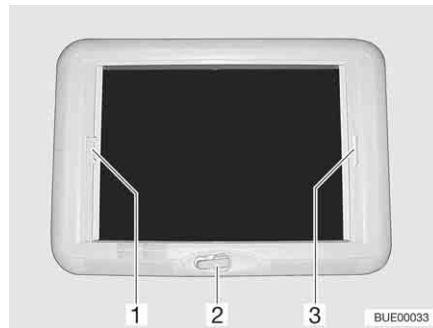

Fig. 90 Wind-up skylight
- Opening:* ■ Rotate the hand crank (Fig. 90,2) until a resistance can be felt (max. opening angle 70°).
- Closing:* ■ Pull the handle of the Roman shade (Fig. 90,3) and release in the desired position. The Roman shade will stay in that position.
- Closing:* ■ Pull insect screen at the handle (Fig. 90,1) to the opposite handle of the Roman shade (Fig. 90,3) and allow to engage.
- Press the handle of the insect screen (Fig. 90,1) at the back upwards and detach the insect screen from the Roman shade (Fig. 90,3).